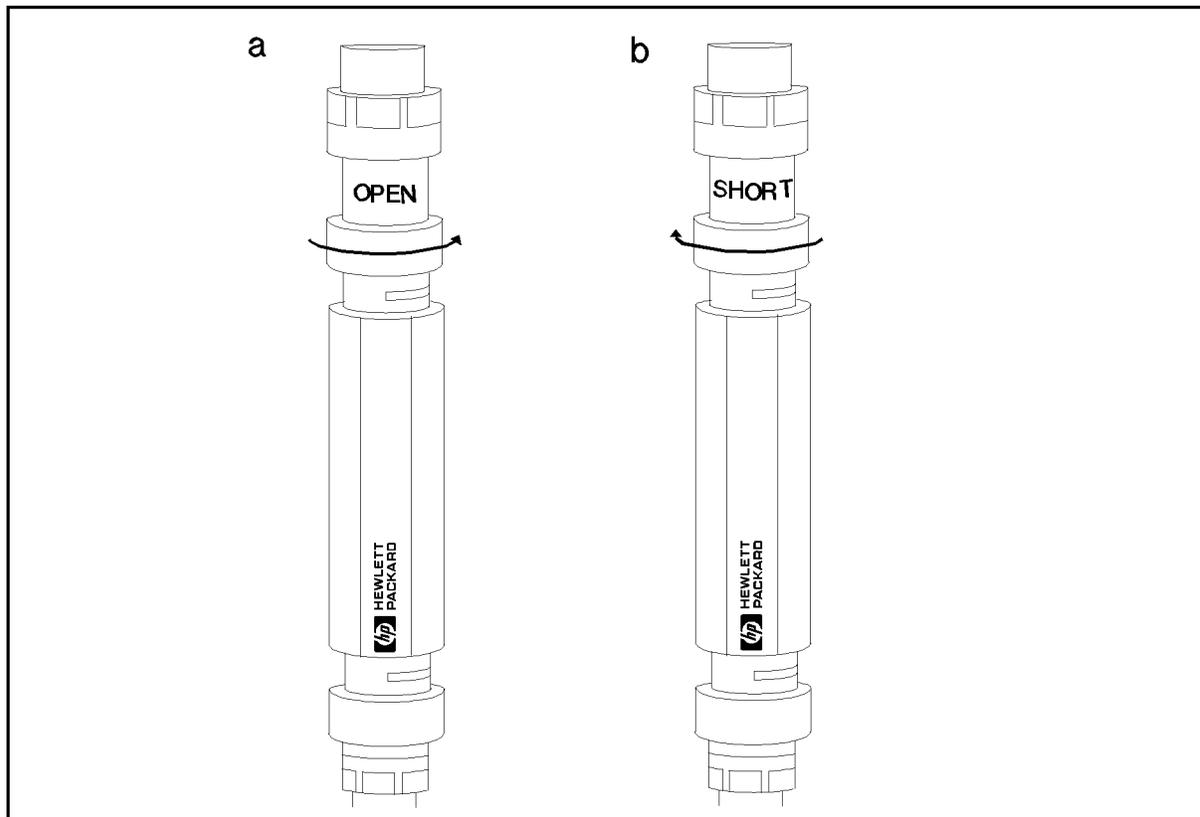

Figure 2-6. 10 cm Airline with Short Measurement Test Setup
46. Connect the 10 cm airline and short termination to the test head APC-7 connector, using the following procedures (see Figure 2-6).